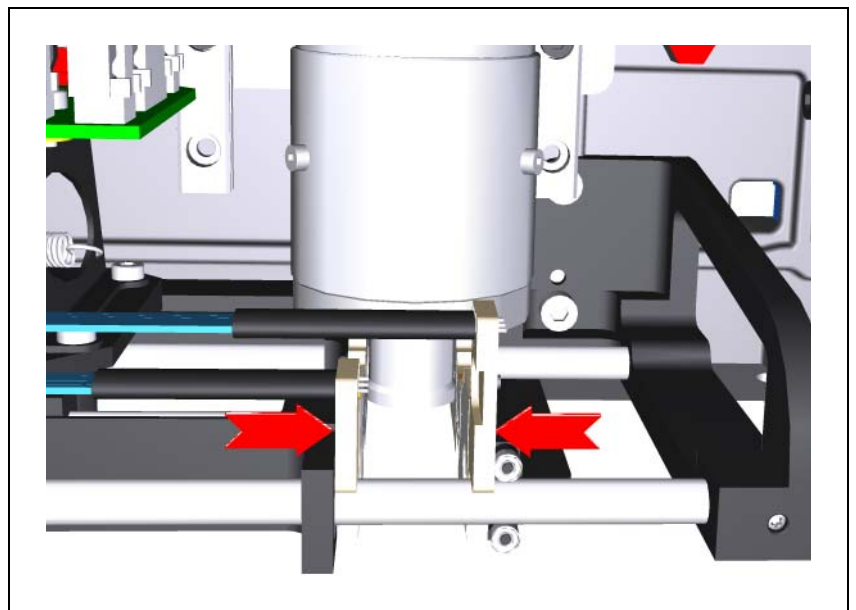

Figure 8-6. Align the centering jaws.
5. Align the centering jaws by pressing them tight against the tool holder on the Midas (see Figure 8-6).